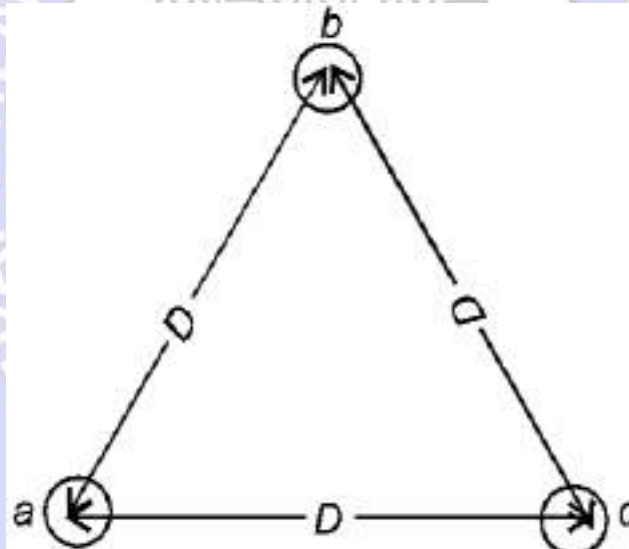

Fig. 18:
- Figure 18 shows the conductors of a three-phase transmission line (a, b, and c) with symmetrical spacing (D). Radius of each conductor is  $r$ .